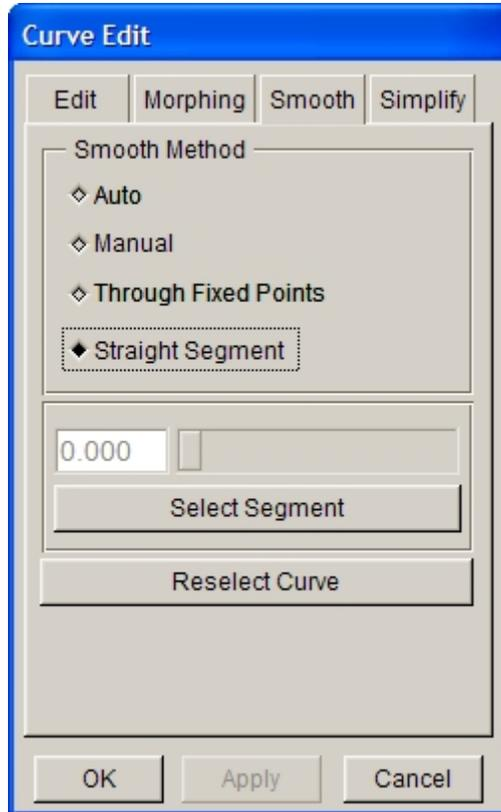

Figure 5.1.30 Straight Segment
**STRAIGHT SEGMENT:** When this function is toggled ON, the Select Segment button will be activated, as shown in Figure 5.1.30. The user can select two points on the selected curve directly by cursor or click on SELECT SEGMENT button and then select point by cursor. The curve between two points will be smoothed to be a straight segment. Click the middle mouse button or Apply button to confirm.